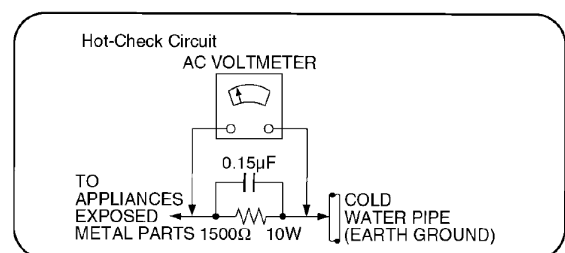

Figure 1
1.1.2. Leakage Current Hot Check (See Figure 1.)
2. Connect a 1.5kohm, 10 watts resistor, in parallel with 0.15 μ F capacitors, between each exposed metallic part on the set and a good earth ground such as a water pipe, as shown in Figure 1.